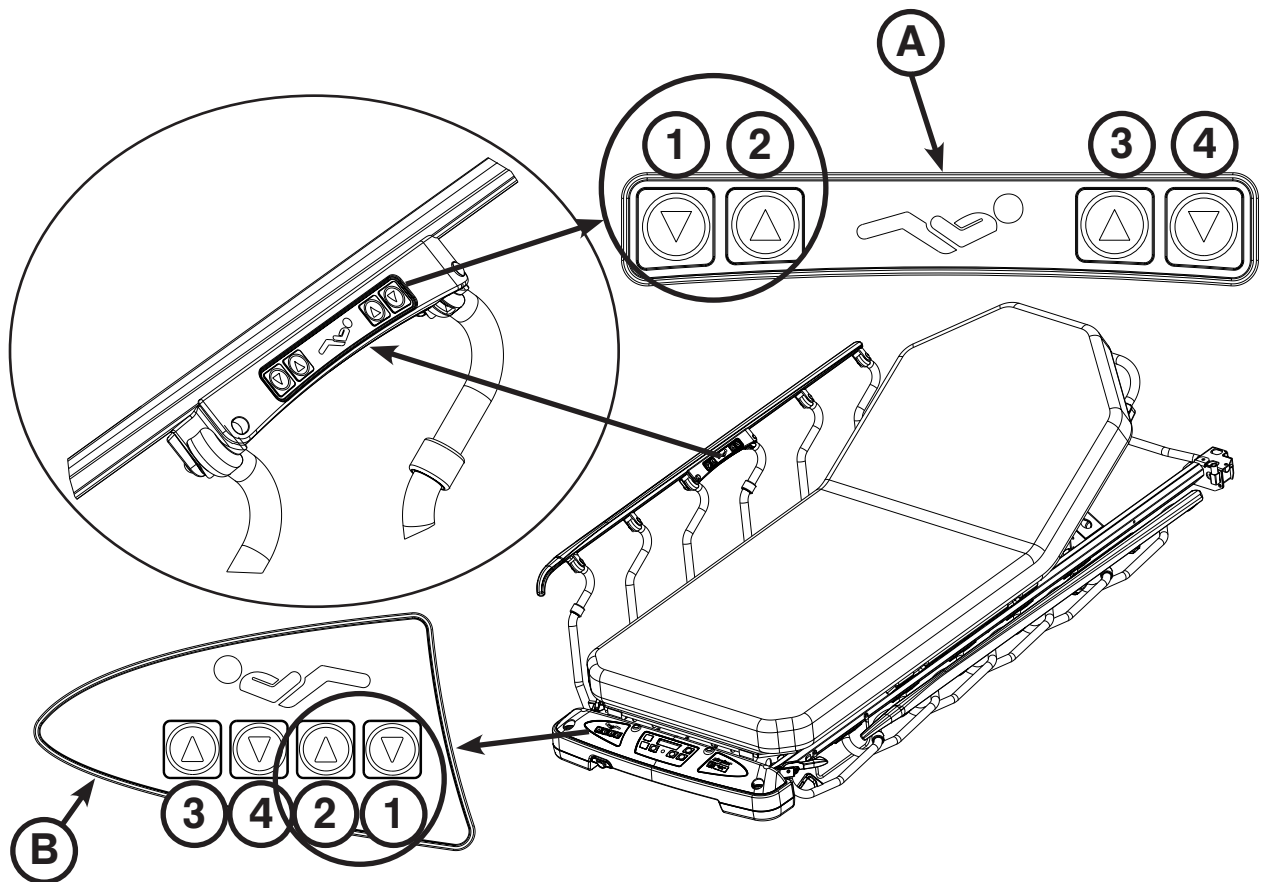

Figure 29: Gatch - Electric Option
To raise the gatch, press the UP (2) button on the siderail patient controls (A) or foot end nursing controls (B) until the gatch has reached the desired height (5.5"/14 cm minimum) as shown in Figure 29.
To lower the gatch, press the DOWN (1) button until the gatch has reached the desired height (5.5"/14 cm minimum) as shown in Figure 29.